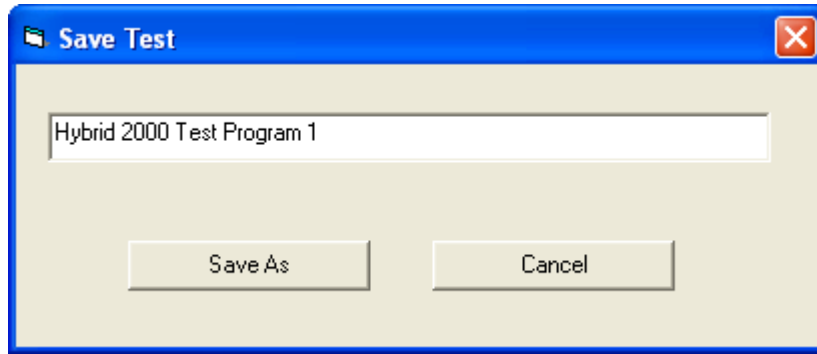

Figure 41 Save the Test Program
6. Click the **Save** button. A pop-up window appears as in Figure 41.